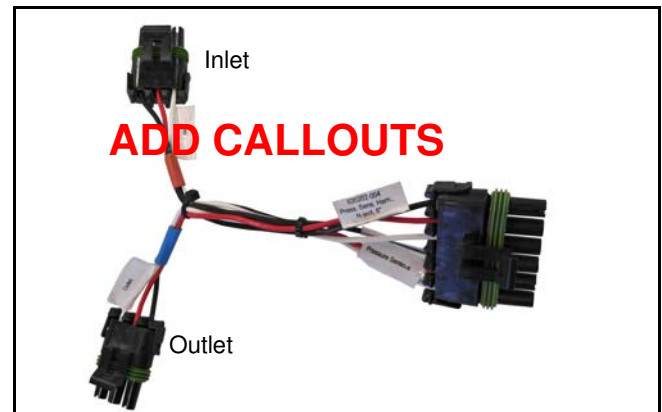

Figure 6
**[Figure 6]** - The 3-pin connectors for pressure sensor harness are labeled:
- Inlet (1)
- Outlet (2)